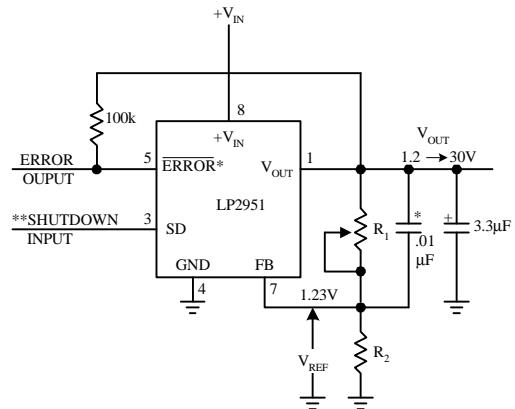

FIGURE 2. Adjustable Regulator
The LP2951 may be pin-strapped for the nominal fixed output voltage using its internal voltage divider by tying the output and sense pins together, and also tying the feedback and V_{TAP} pins together. Alternatively, it may be programmed for any output voltage between its 1.235V reference and its 30V maximum rating. As seen in Figure 2, an external pair of resistors is required.
*When V_{IN} > 1.3V the error flag pin becomes a high impedance, and the error flag voltage rises to its pull-up voltage. Using V_{out} as the pull-up voltage (see Figure 2), rather than an external 5V source, will keep the error flag voltage under 1.2V (typ.) in this condition. The user may wish to drive down the error flag voltage using equal value resistors (10 kΩ suggested), to ensure a low-level logic signal during any fault condition, while still allowing a valid high logic level during normal operation.